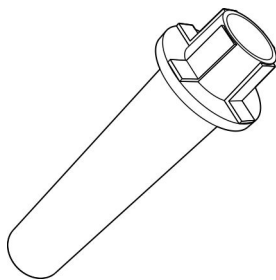

Fig. 90: Cone head cleaner (example HSK 25)
4. ➤ Insert the cone cleaner (Fig. 90) in the tool holder and turn it 2 – 3 times.